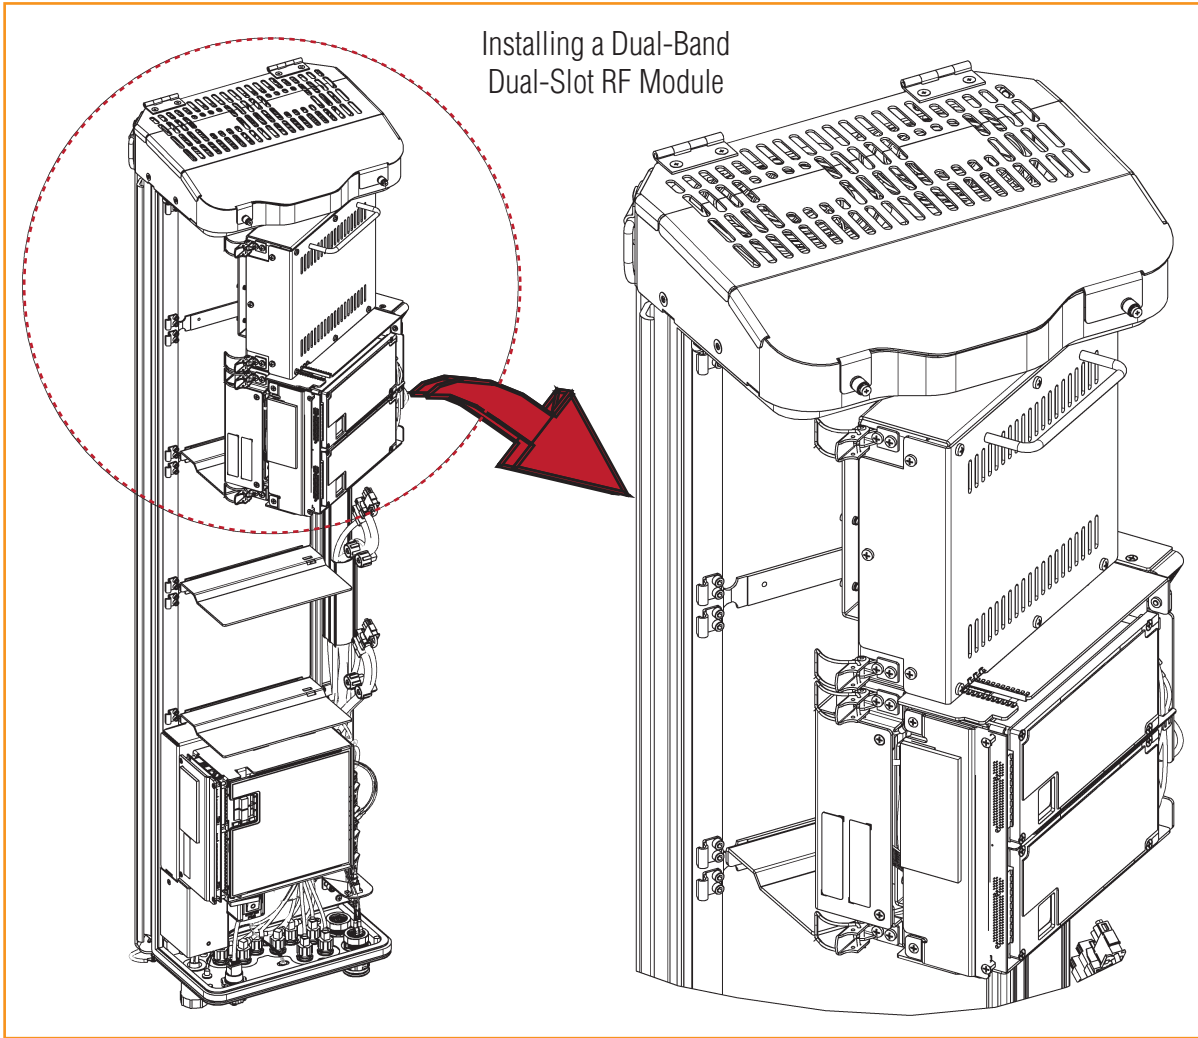

Figure 13. Installing a Dual-Bay RF Module
- Dual-Bay RF Module: Figure 13 on Page 27